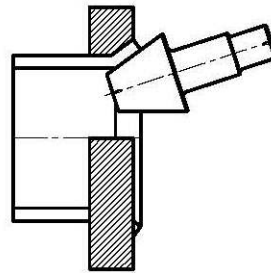

Fig. 2
6. Continue to advance the flaring pin with short strokes of the manual pump until the desired flaring pressure is reached. Reference the Pressure and Duration chart on page 9. Maintain the pressure with short strokes of the manual pump as the pipe is flared and there is no further pressure decay. The back of the flare should be contacting the die, and the flare is now complete. (Fig. 2)